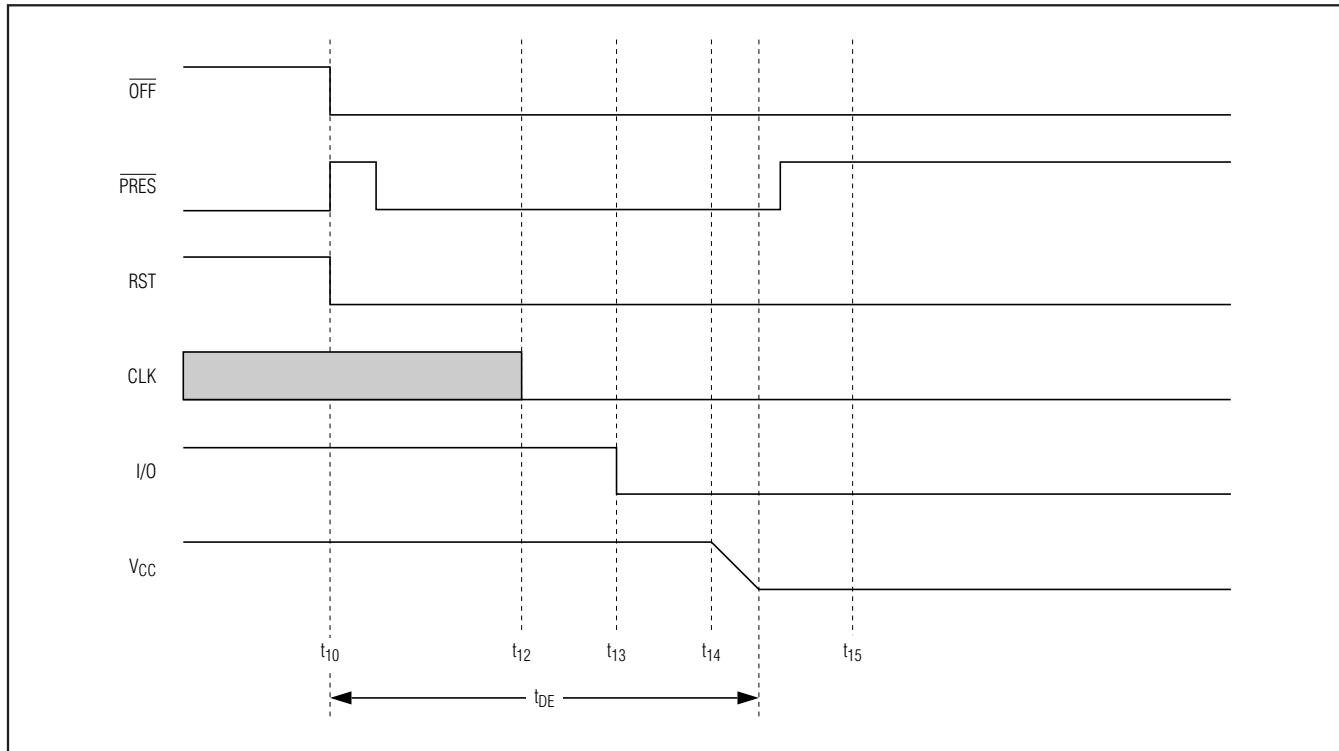

Figure 7. Emergency Deactivation Sequence (Card Extraction)
The DS8024 crystal oscillator runs when the device is powered up. If the crystal oscillator is used or the clock pulse on pin XTAL1 is permanent, the clock pulse is applied to the card at time t_4 (see Figures 7 and 8). If the signal applied to XTAL1 is controlled by the host microcontroller, the clock pulse is applied to the card when it is sent by the system microcontroller (after completion of the activation sequence).
• **Within a Card Session (CMDVCC Low).** Output OFF goes low when a fault condition is detected, and an emergency deactivation is performed automatically (Figure 7). When the system controller resets CMDVCC to high, it may sense the OFF level again after completing the deactivation sequence. This distinguishes between a card extraction and a hardware problem (OFF goes high again if a card is present). Depending on the connector's card-present switch (normally closed or normally open) and the mechanical characteristics of the switch, bouncing can occur on the PRES signals at card insertion or withdrawal.